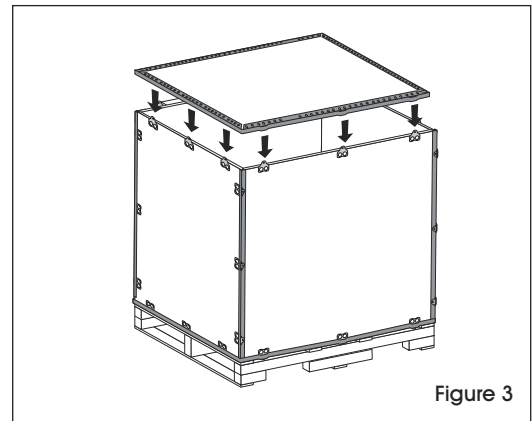

Figure 3
3. Ensure all panels are level, then place lid on top. (See Figure 3)